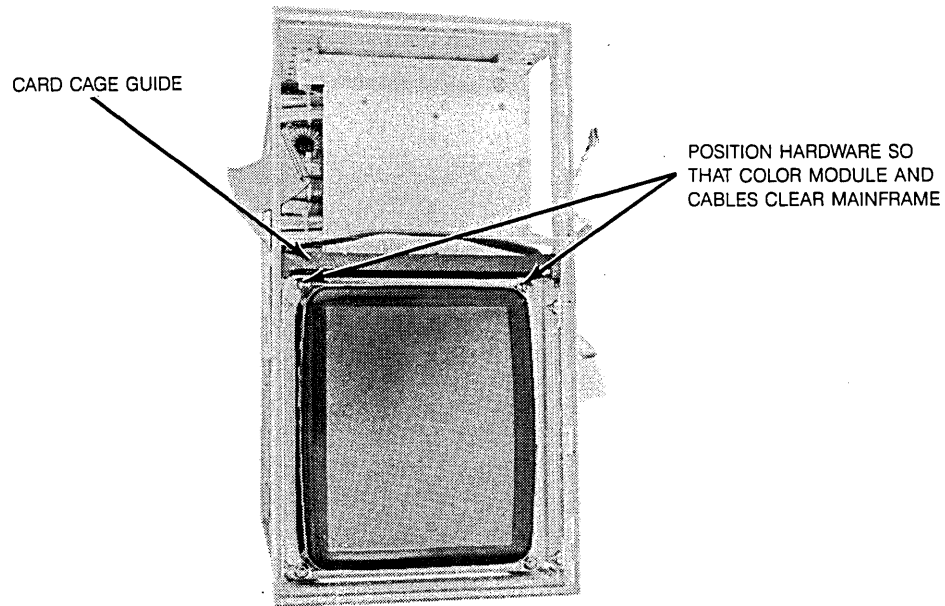

Figure 6-44. Center Board Guide Hardware
- h. Push the sheet metal nut on the center board guide ears upward so that the display module can clear the mainframe (see figure 6-44).